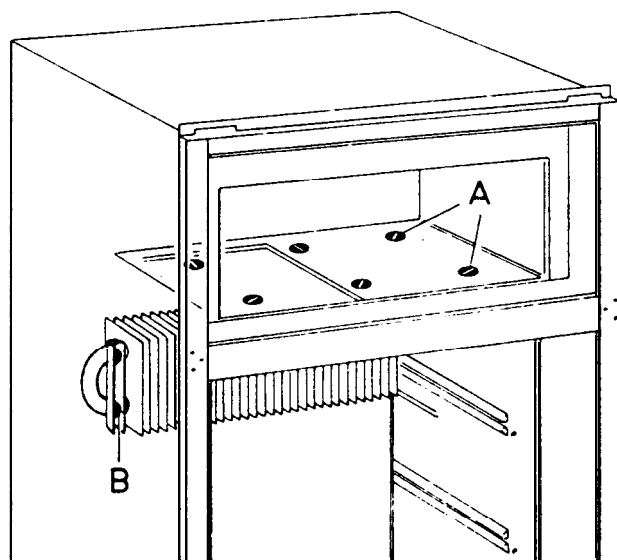

Fig. 47
1. Remove the 6 screws at the bottom of the freezer compartment ("A" fig. 47).
2. Remove the thermostat capillary tubes by loosening the two screws "B" on the evaporator fins (fig. 47).